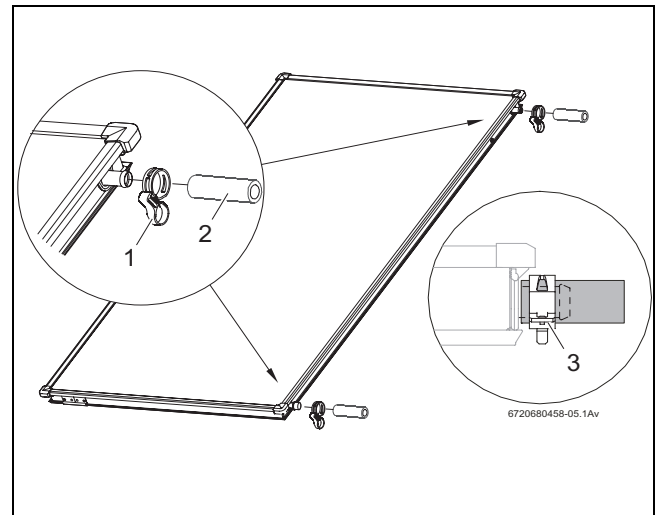

Fig. 34 Pre-assembly of the joining set on the second collector
- Push the 95 mm solar hoses (Fig. 34, [2]) to the hoses on the right side of the second collector and then to all other following collectors.
- Push the hose clips (Fig. 34, [1]) over the solar hose (the second clip later secures the connection of the other collector).
- When the hose clip has been correctly fixed, pull the locking ring to secure the connection (Fig. 34, [3]).